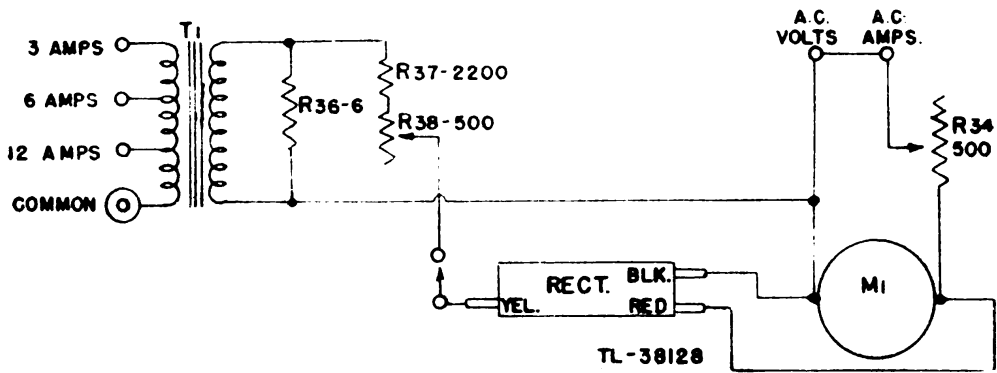

Figure 13. Test Set I-179, simplified A.C. amps circuit.
17. TEST SET I-179 AS AN A-C CURRENT METER (fig. 13).